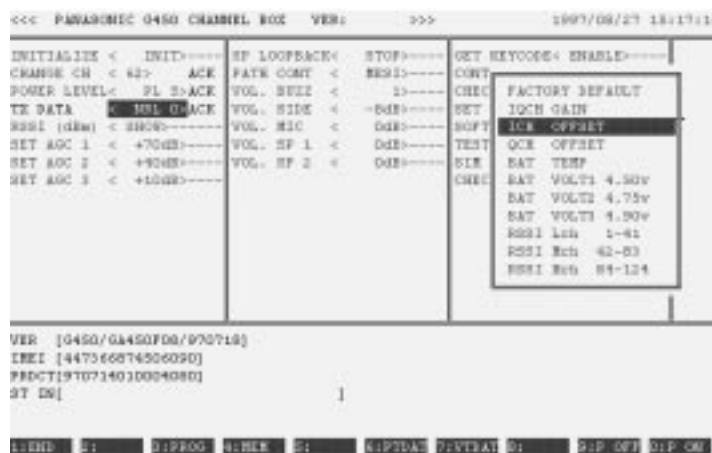

Figure 21: I ata iel selection 450-0721
- b figure 21 press ove on arro until IC SET appears in the iel press E TER
- b. Figure 21 Press over left arrow until I C GAIN level is highlighted Press ENTER